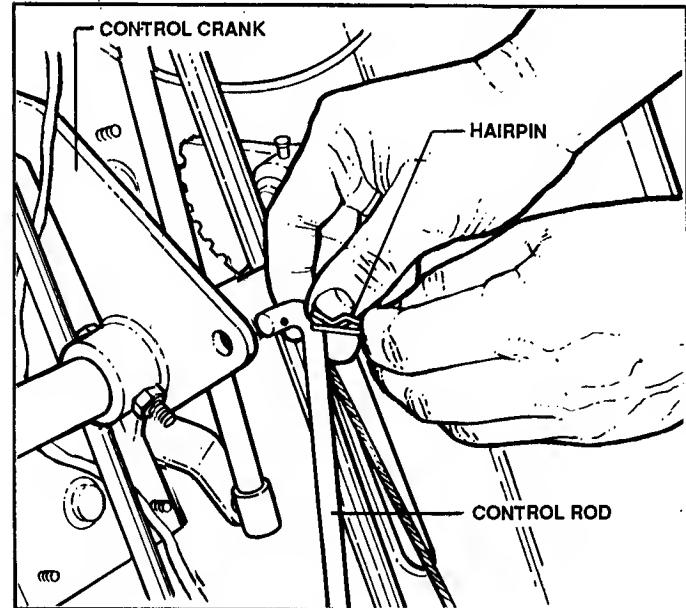

FIGURE 31
- Remove hairpin from front of CONTROL ROD, then lower CONTROL ROD. See Figure 31.